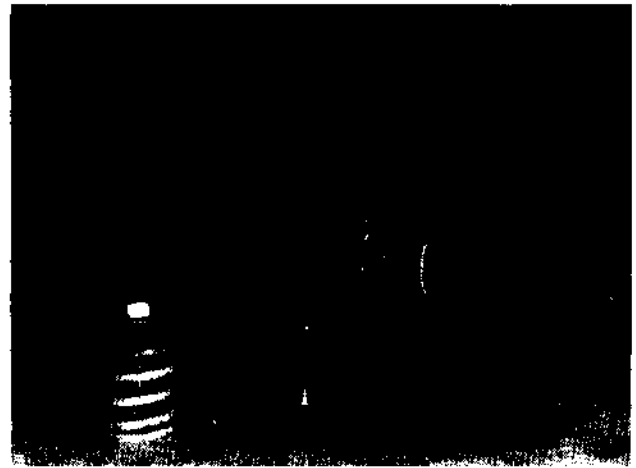

Figure 82
1. Remove the crankcase heater cover (Figure 82).